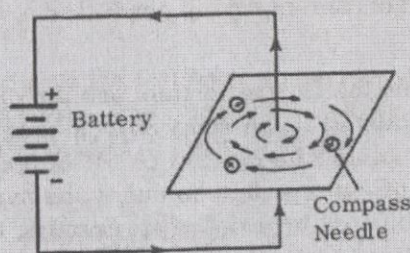
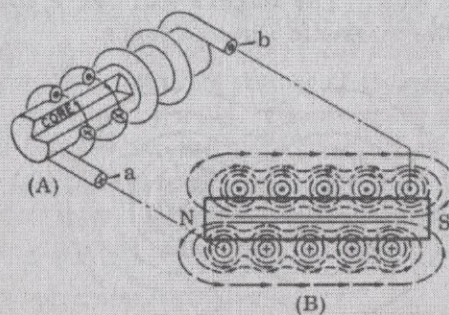

Figure 6-4. Magnetic field around a current-carrying conductor.
Figure 6-7. Magnetic field produced by a current-carrying coil.
22. The presence of a magnetic force can be demonstrated by passing an electric current through a vertical conductor which passes through a horizontal piece of cardboard, as illustrated in Figure 6-4. The presence of a magnetic force is indicated by the positioning of a compass at various points on the cardboard and noting the deflection of the needle. In Figure 6-4, the direction of the magnetic field, as you view the cardboard from above, is (clockwise/counterclockwise) \_\_\_\_\_.
23. The magnetic field is at right angles to the conductor, and there is a definite relation between the direction of the current flow and the direction of the associated magnetic field—if one is reversed, so is the other. If the direction of current flow, as shown in Figure 6-4, is reversed, the \_\_\_\_\_
30. The magnetic field around a current-carrying wire exists at all points along its length. The field consists of concentric circles in a plane perpendicular to the wire (see Figure 6-4). A partial cutaway view of a simple coil is shown in Figure 6-7, View A. View B is a complete cross-sectional view of the same coil. Each cross-section of conductor (actually a single conductor wound around a core) is labeled with a dot or a cross to indicate the direction of current flow. In the top portion of the coil, the current is flowing out of the paper. As indicated in Frame 28, when two parallel conductors carry current in the same direction, the magnetic fields tend to draw the conductors together. The same is true of any number of parallel conductors. In a coil, there is actually only one conductor,
but the turns are, in effect, parallel conductors. In the coil shown in Figure 6-7, the "parallel conductors" on the bottom half carry current in a direction that is (the same as/opposite to) \_\_\_\_\_ that of the conductors in the top half.
31. There are two magnetic fields around the turns of wire that make up the coil in Figure 6-7. The two fields (repel/attract) \_\_\_\_\_ each other.
32. When current is passed through the coiled conductor in Figure 6-7 the magnetic field of each turn of wire links with the fields of adjacent turns. The combined influence of all the turns produces a two-pole field similar to that of a simple bar magnet. As in all magnets, it has a north pole and a south pole. The north pole of the magnet produced by the current flow in the coil is, as in all magnets, the pole at which the flux lines (enter/leave) \_\_\_\_\_ the magnet.
33. In Figure 6-5, it was shown that the direction of the magnetic field around a straight conductor depends on the direction of current flow through that conductor. Thus, a reversal of current flow through a conductor causes a reversal in the direction of the magnetic field that is produced. Reversal of current flow through a coil also causes a reversal of its two-pole field. In Figure 6-7, if the current flow through the coil is reversed, the left end of the coil will become a (north/south) \_\_\_\_\_ pole.